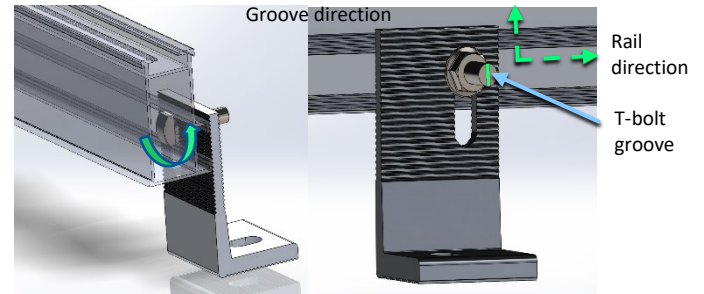

Figure 3 - T-bolt Engagement
**STEP 2: Install Rails** – Ensure that the groove on the end of the T-bolt is perpendicular to the rail direction. See Figure 3. Tighten to 12 ft-lbs.